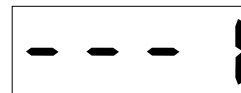

Figure 37. Pressure Adjustment
10. Press the **DOWN ARROW** (↓) button repeatedly until the last digit on the 7-segment display reads "1" (Figure 37).